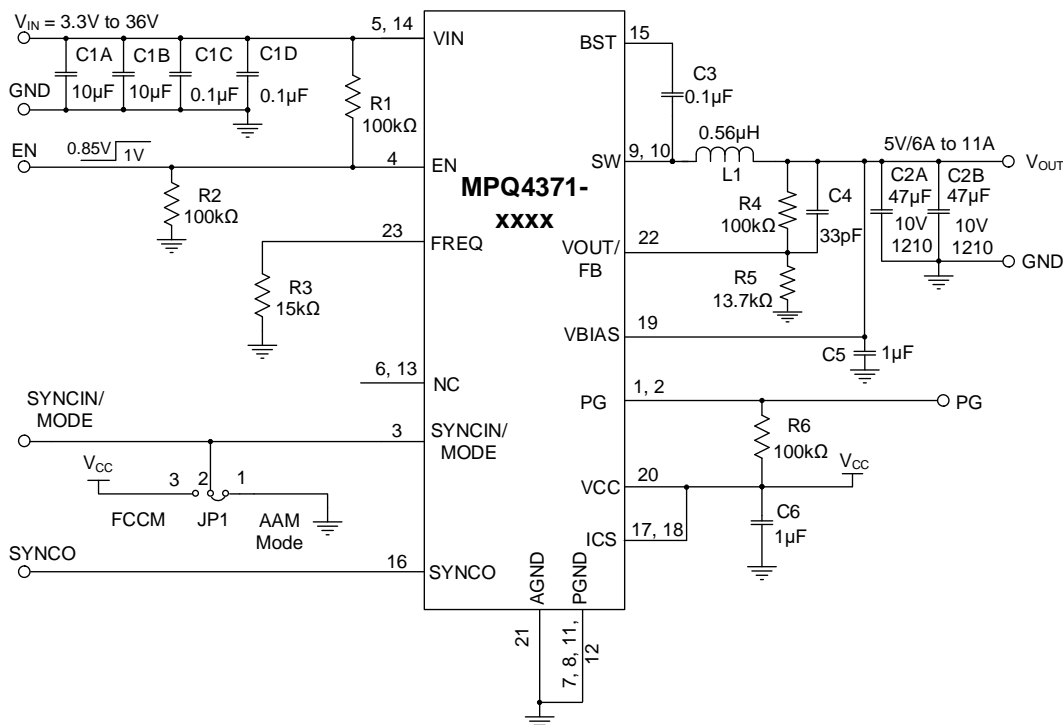

Figure 15: Typical Application Circuit (Single-Phase, V_{OUT} Adjustable for the MPQ4371-xxxx, $V_{OUT} = 5V$, $f_{sw} = 2.2MHz$)
- 15) The recommended PCB layout is based on Figure 15 on page 75.